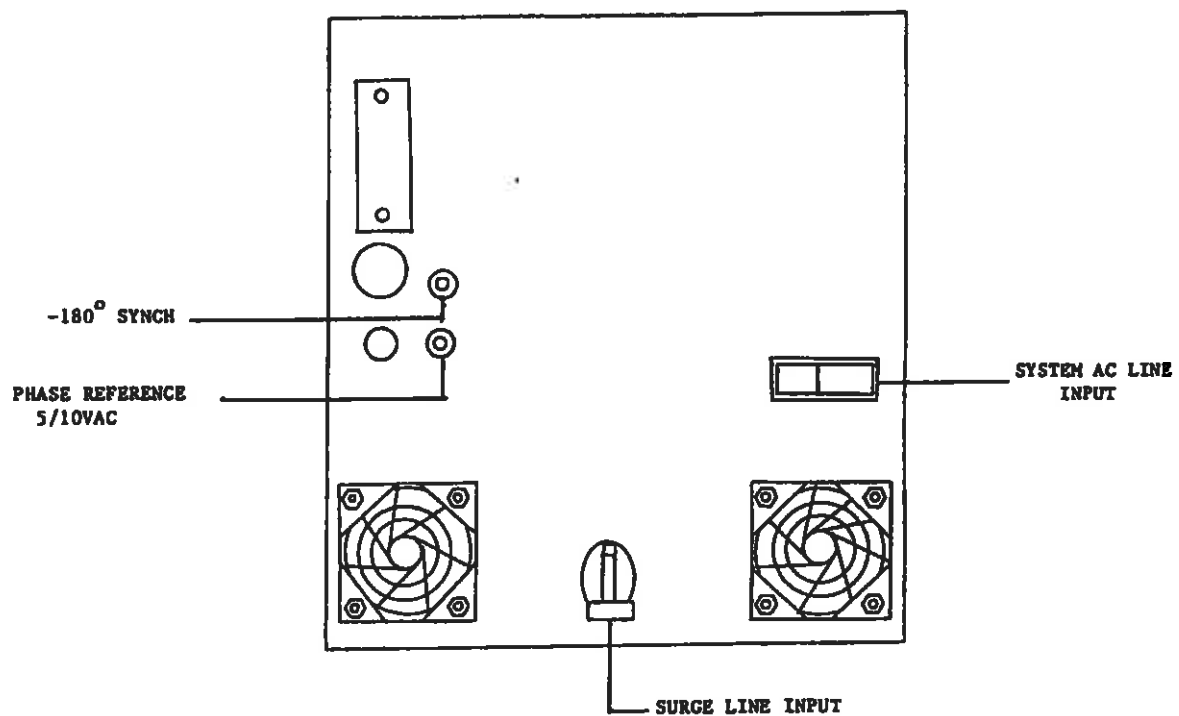

Figure 1-2
4. Connect the ac power line cord from the ac input connector located on the rear panel to an appropriate ac source.* (See Fig. 1-2.)